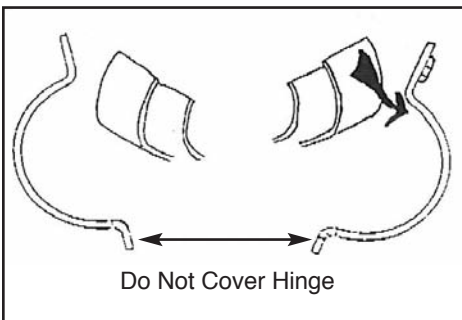

Figure 3
4. Before removing paper backing from Gasket, fit Gasket to Clamp to verify correct length. Cut Gasket material to exact length of Clamp half. **(Sissors) Figure 3**
5. Remove paper backing and apply the required Gaskets(s) to each Clamp half. **Do Not Apply Gasket Over Hinge. Figure 3**